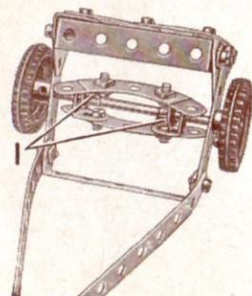

Fig. O.10a
Two Angle Brackets are bolted to each of the Curved Strips forming the cutting blades. The wheel axle is then pushed through the four Angle Brackets and Spring Clips (1) shown in Fig. O.10a are used to hold the blades in place.